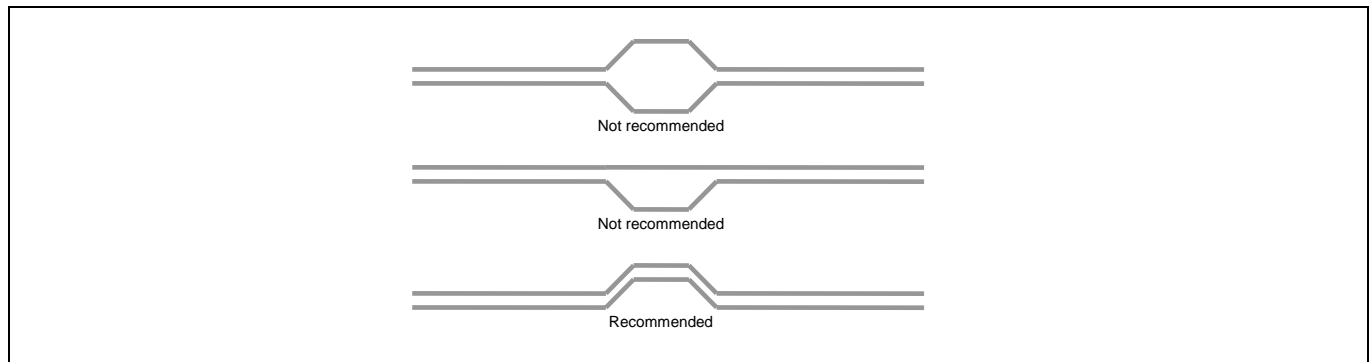

Figure 18 Differential pairs impedance matching techniques
- Keep trace spacing between differential pairs consistent to avoid impedance mismatches as shown in the Figure 18.